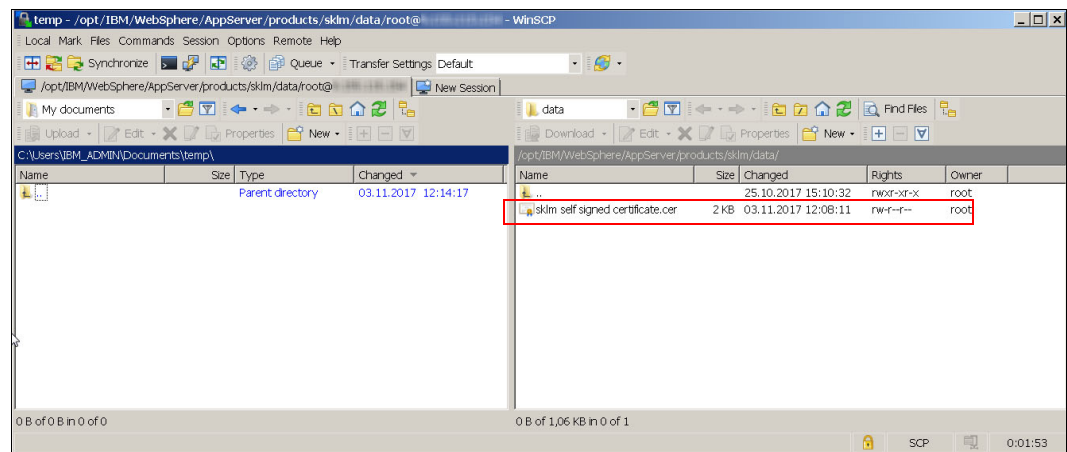

Figure 7-44 Self-signed certificate from SKLM to local drive
8. On your local workstation, open the scp client, such as WinSCP. Transfer the SKLM certificate from /opt/IBM/WebSphere/AppServer/products/sklm/data to your local drive, as shown in Figure 7-44.